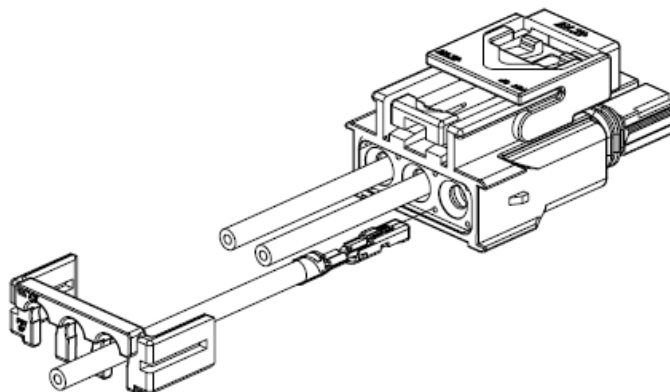

Figure 12
4. Grasp the wire directly behind the insulation barrel and push the contact straight into the housing cavity until contact locks in place. See Figure 12.